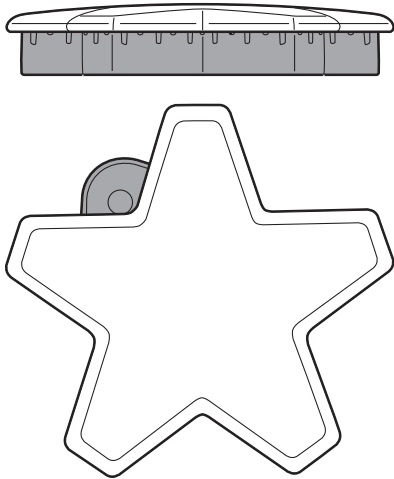
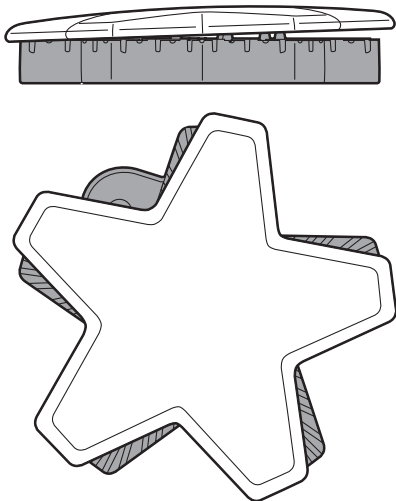

Figure 13: Correct Burner Cap Placement
Figure 14: Incorrect Burner Cap Placement
- Check each burner to make sure there is no gap between the burner cap and burner base. See *Figure 13* and *Figure 14* for examples of correct and incorrect placements of the burner cap.
- You may gently try to move the burner caps from side to side to check if the caps are properly placed on the burner bases. When properly placed, each burner cap will rest flat on top of its burner base, and completely cover the star-shape of the burner base when viewed from the top as shown in *Figure 13*.
Each STAR[®] burner has its own electronic igniter that sparks when the burner is turned on. Each burner should light in 4 seconds or less. If a burner does not light, check to see that the burner cap is positioned correctly on the base (see *Figure 13*).